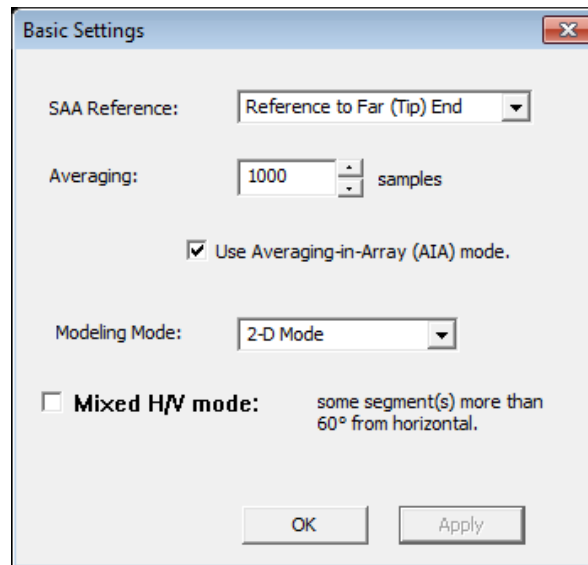

Figure 6.19: 'Basic Settings' window.
2. The 'Program' window with the 'Basic Settings' window shown in **Figure 6.19** will open.